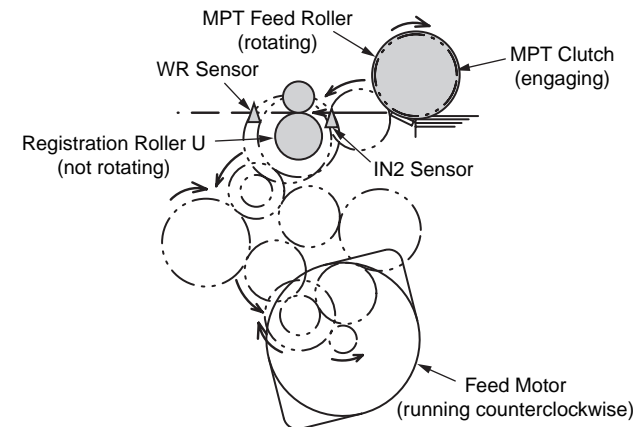

Figure 2-3
1. As figure 2-3 shows, a feed motor runs counterclockwise, an MPT clutch engages and paper is fed (an MPT feed roller rotates when the MPT clutch engages).